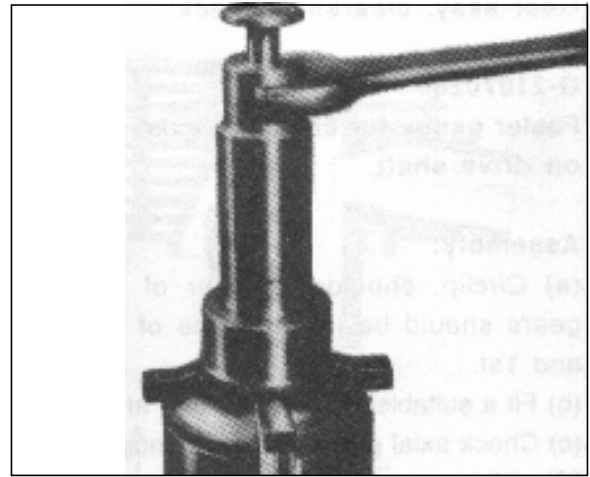

Fig. 151-Drive shaft assy.
- (c) Control rod to be caulked as shown in fig.151